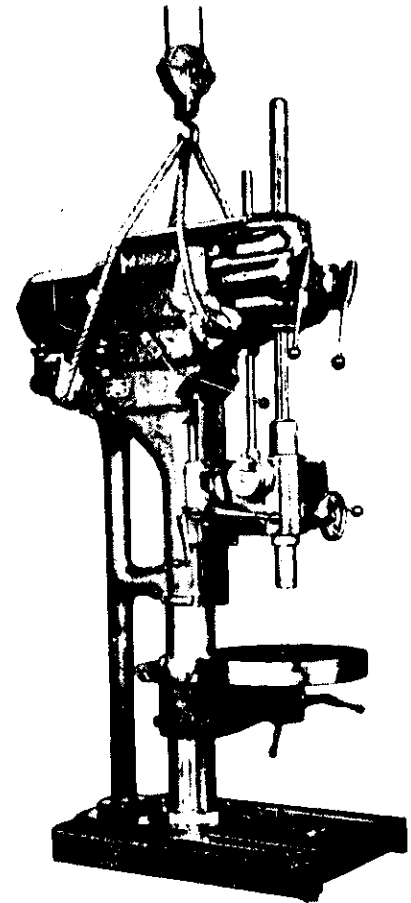

FIG. 1
1. Remove the crating but be careful to save any small boxes which may be attached. They contain important parts of the machine. The skids should remain attached to the machine until it has been moved to its permanent location or under a crane. Lift the machine with a crane using a rope sling as shown in Fig. 1. Place a pad or felt between the rope and the machine to prevent marring the painted surface. All loose parts such as spindle and shaft guard, piping and wrenches are packed in a separate wooden box attached to the skids.